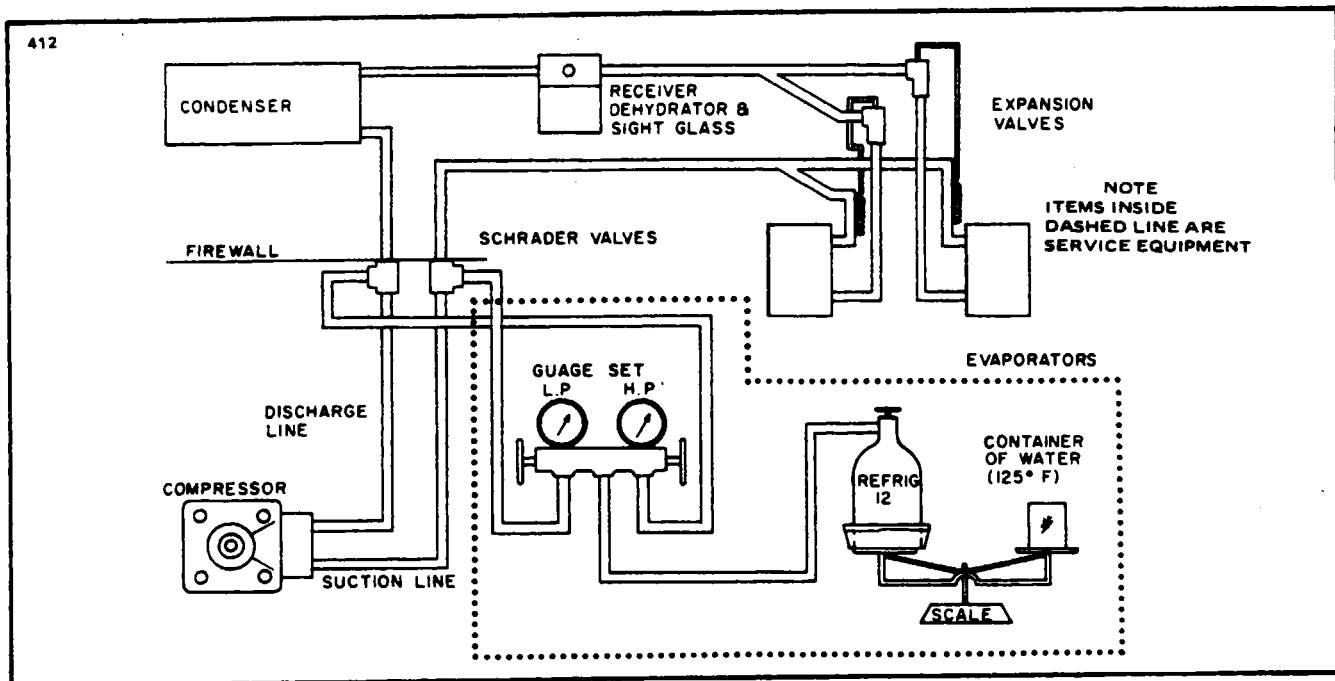

Figure 14-33. Charging Hookup
- 2. Connect red high-pressure charging line to high pressure Schrader valve at the firewall fitting of the right nacelle. (See Figures 14-33 and 14-37.)
1. Connect red high pressure hose to the firewall fitting high pressure Schrader valve and the blue low pressure hose to the firewall fitting low pressure Schrader valve. (See Figures 14-33 and 14-37.)
1. Close both valves on a standard gauge set. Connect the red high pressure hose from the gauge set to the high pressure Schrader valve on the firewall fitting. Connect the blue low pressure hose from the gauge set to the low pressure Schrader valve on the firewall fitting. (See Figures 14-33 and 14-37.)
1. Using lines long enough to extend from the rear of the wing, connect the gauge set to the firewall fitting Schrader valves. Connect the low pressure gauge to the suction side and the high pressure gauge to the discharge side. (See Figures 14-33 and 14-37.) Secure the gauge set to prevent movement and aircraft damage from prop blast.